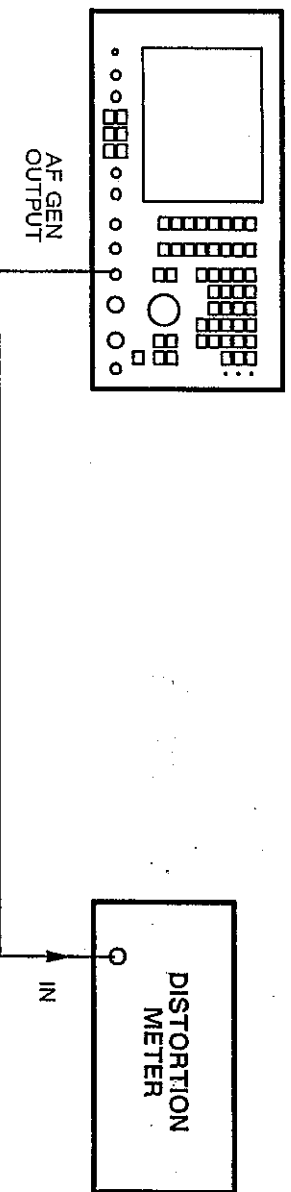

Fig. 6-18 Test equipment connections for distortion and noise meter distortion
- (1) Connect the AF GEN OUTPUT socket to the AF INPUT socket.
- (2) On the 2955A, set the MODE to AUDIO TEST, FILTER to 50 kHz LOW PASS and DIST'N. Press the TONES and AUDIO SETUP keys. Set AF GEN 1 FREQ to 1 kHz, LEVEL to 1 V and SHAPE to SINE. Set AF GEN 2 FREQ to 3.5 kHz, LEVEL to 206 mV and SHAPE to SINE.
- (3) Adjust the level of AF GEN 2 until the distortion meter reading is exactly 20.0%.
- (4) Remove the AF GEN OUTPUT from the AF INPUT and connect the distortion meter to the AF GEN OUTPUT socket. See Fig. 6-18.
- (5) Tune the distortion meter to 1 kHz and check that the reading is 18.5 to 21.5%.